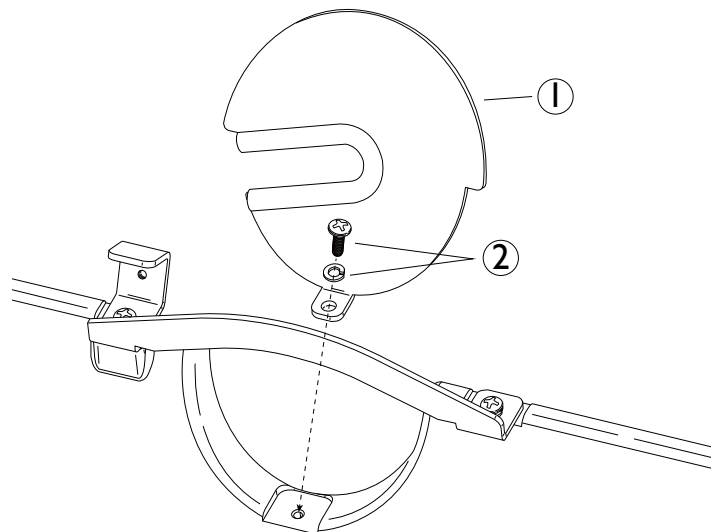

Figure 18. Installing the base cover to the bracket
If desired, the optional Base Cover (Figure 18, item 1) can be installed (no difference to the performance of the chair).
Using the provided fasteners (Figure 18, item 2), install the cover as shown.